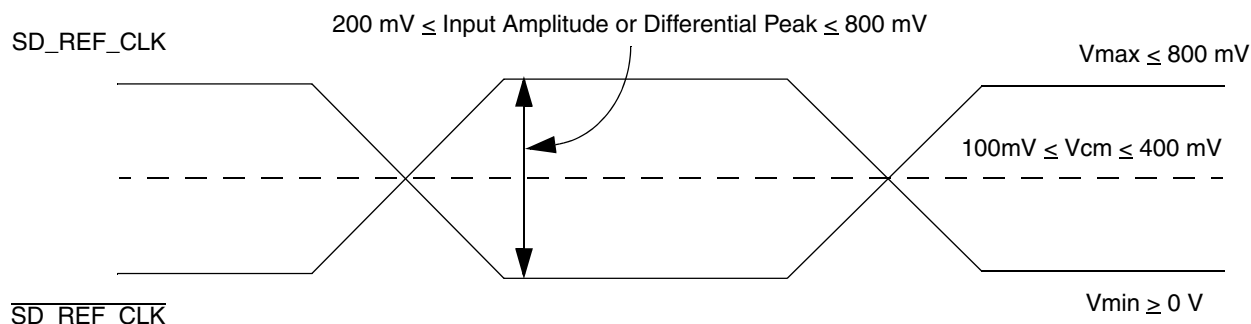

Figure 38. Differential reference clock input DC requirements (external DC-coupled)
- For **external DC-coupled** connection, as described in Section 2.21.2.1, “SerDes reference clock receiver characteristics,” the maximum average current requirements sets the requirement for average voltage (common mode voltage) to be between 100 mV and 400 mV. Figure 38 shows the SerDes reference clock input requirement for DC-coupled connection scheme.